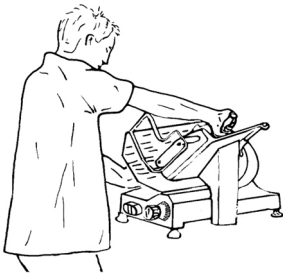
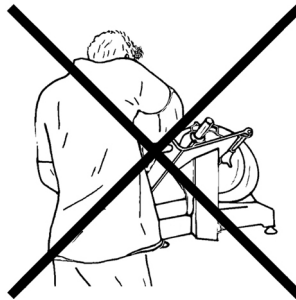

Fig. 1a. Right position
Fig. 1b. Bad position
- to avoid accidents, the operator has to face the machine and adopt a correct position: put the ring hand on the meat pusher, and then the left one beside the deflector (**do not touch the blade**); the body must be perpendicular to the working surface (see FIG. 1a). **WARNING: Pay maximum attention: no part of your body should contact the blade** (see FIG. 1b);